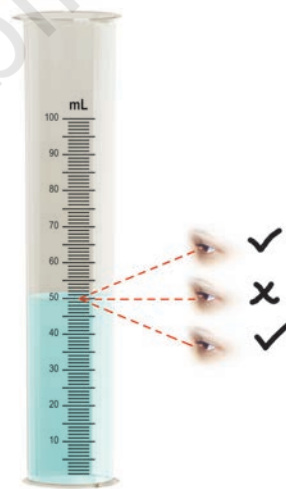

Fig. 3.2 : Measurement of volume of given liquid
3. Place the measuring cylinder on a horizontal surface like a table. Pour the given liquid (whose density is to be determined) in the measuring cylinder. Note the volume, V , of the liquid (Fig. 3.2).